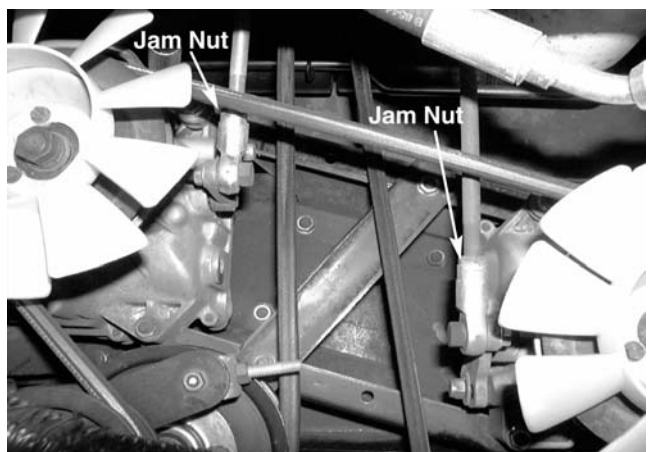

Figure 10-18.
28. Loosen all four hex jam nuts that maintain the alignaball positions on the hydrostatic control rods using two 9/16 wrenches. See Figure 10-18.